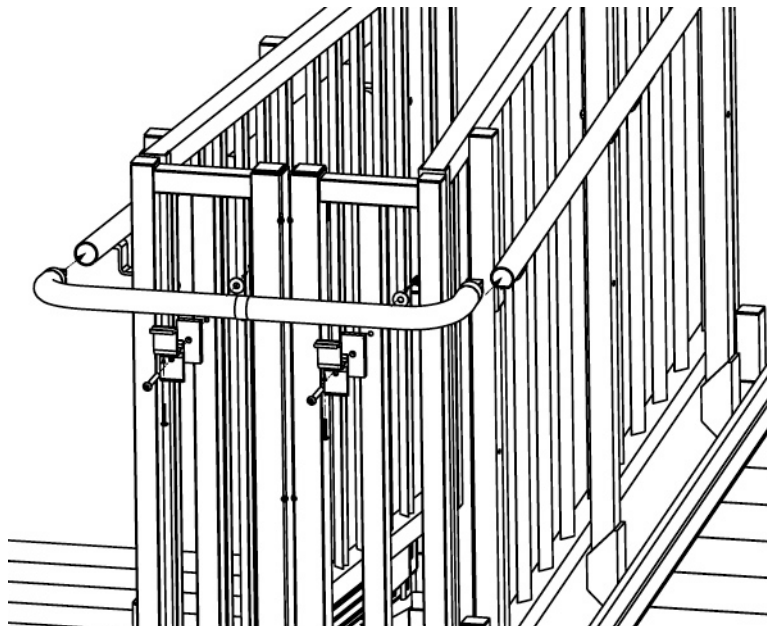

FIG. 38
- 8.6.3 Attach long legs of elbows in the middle with a ring joiner, and then attach both elbows to handrail tubes with ring joiners (FIG. 38)